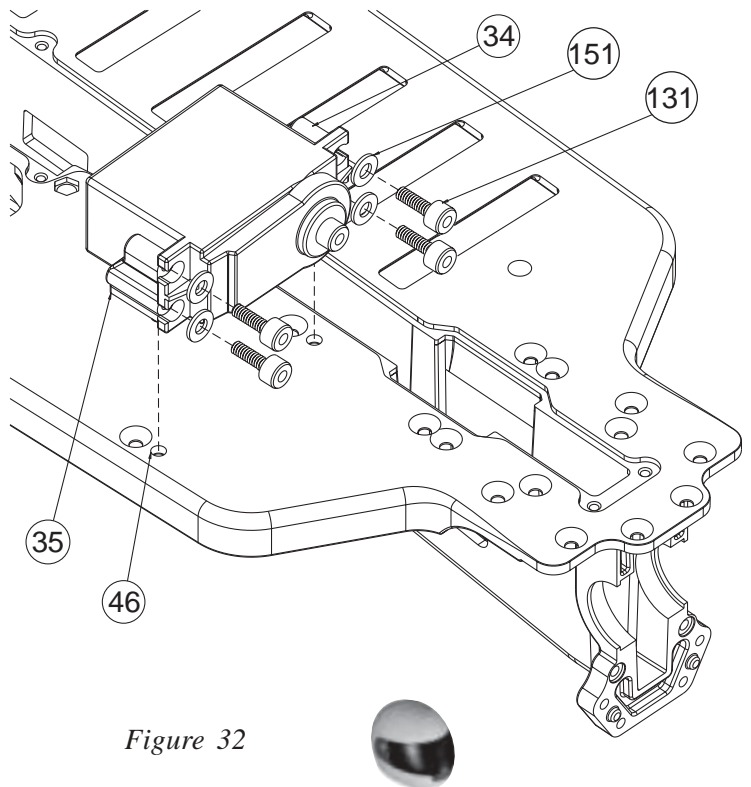

Figure 32
2. Place a #4 washer (151) over each of the four 4-40 x 3/8" cap head screws (131) and attach the servo posts to the servo by threading a screw through the servo mounting ears into the upper and lower holes in each post. **Do not tighten the screws yet!** Just snug them up so that the posts are held in place, but can still be moved from side to side with a little resistance.
3. As shown in Figure 32, you will use the bottom side of the chassis to determine the exact spacing needed for your brand servo. With the screws still loose, push the pins on the servo mounts into the holes in the bottom of the chassis (46). Slide the mounts until the screws are centered on the servo, and tighten as indicated in Figure 32.